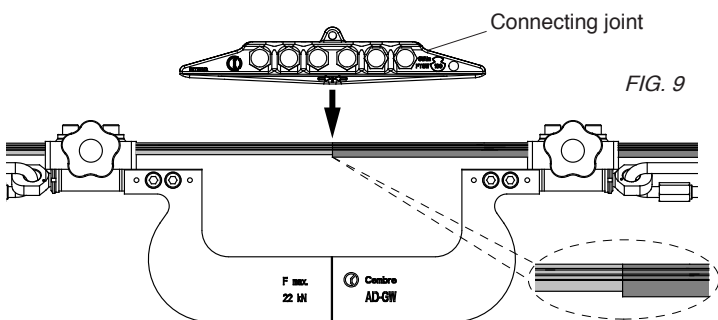

FIG. 9
- 8** (Ref. fig. 9) Install the connecting joint appropriate to the section of the contact wires, carefully following the assembly instructions provided.